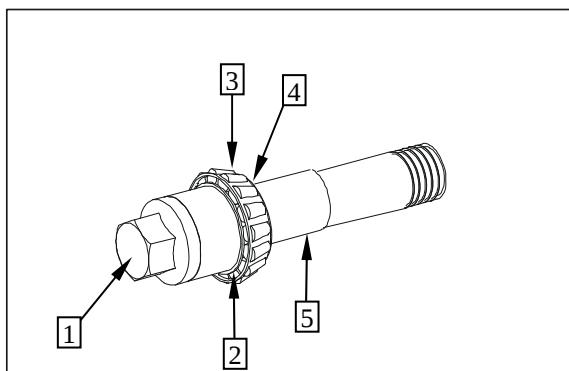
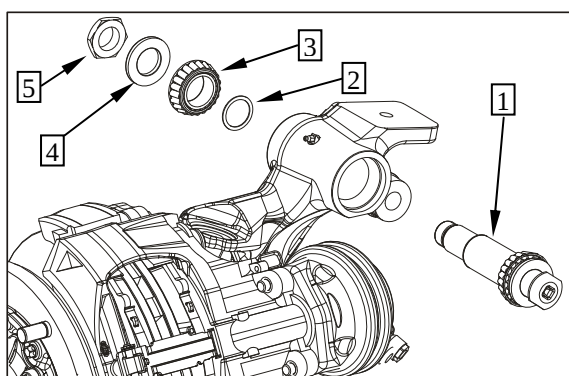

Figure 5
Figure 6
**Adjust rolling torque of control arm bearing to 8 - 15 Nm (without sealing elements) – see Figures 5 to 8.**
Mount single parts onto the assembly mandrel according to Figure 5.
Any deviation from the required rolling torque must be corrected by appropriate shims (Item 4 Figure 5, or Item 2 Figure 6).